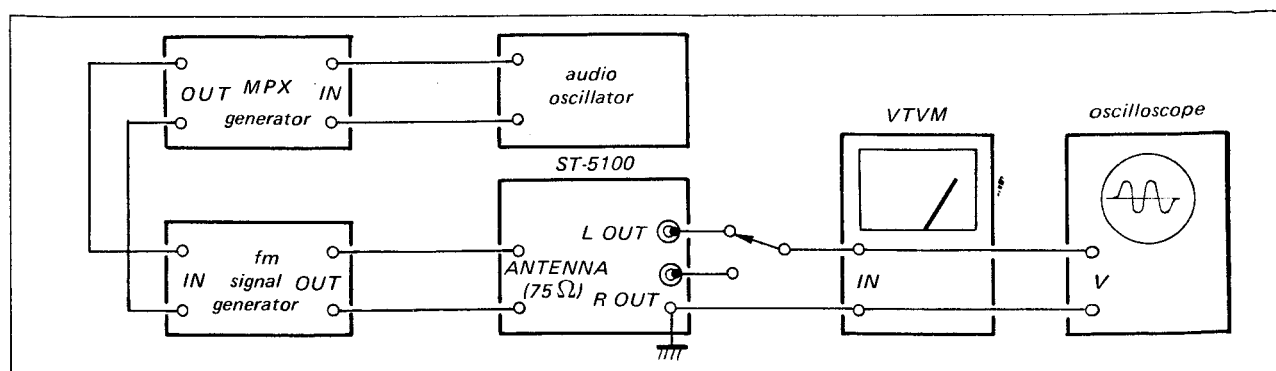

Fig. 3-8 Fm stereo separation adjustment test setup
1. Connect the equipment as shown in Fig. 3-8. Set the fm signal-generator's controls as follows:
- (a) With the equipment connected as shown in Fig. 3-8, set the MPX stereo generator controls as follows: